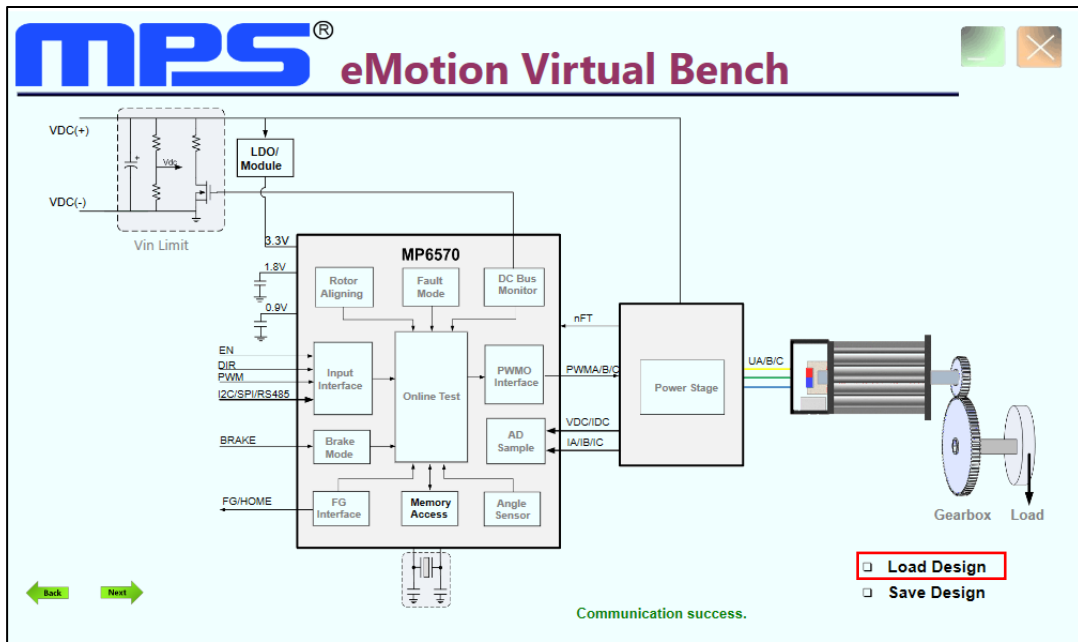

Figure 8: Load the Design File
1. Click the “Load Design” button (see Figure 8).